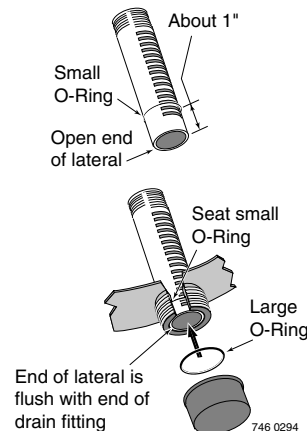

Figure 12: Drain Fitting Assembly. This assembly allows water to drain without losing the sand out of the filter tank.
3. Drain filter tank completely and replace drain cap (Figure 12).
1. Installation: See Figure 12.
- A. Remove both drain cap and slotted lateral tube (see Figure 12). Sand and water will drain from tank.